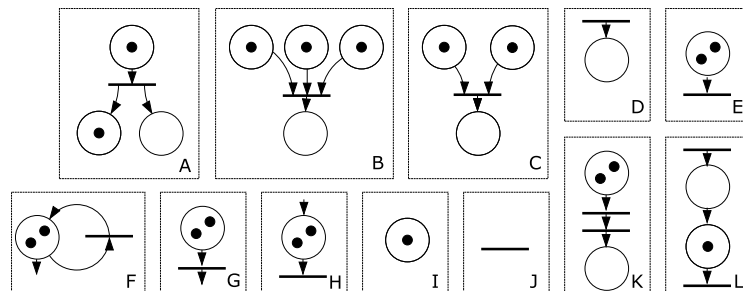

Figure 1
3. Are the nets in Figure 1 Petri nets? For the ones which are Petri nets indicate: